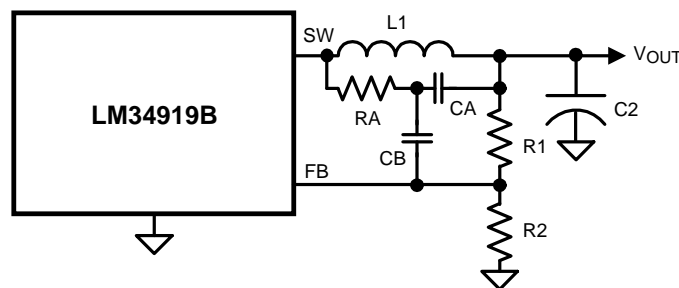

Figure 33. Minimum Output Ripple Using Ripple Injection
b) Minimum ripple configuration: The circuit of Figure 33 provides minimum ripple at V_{OUT} , determined primarily by $C2$'s characteristics and the inductor's ripple current since $R3$ is removed. RA and CA are chosen to generate a sawtooth waveform at their junction, and that voltage is AC-coupled to the FB pin via CB . To determine the values for RA , CA and CB , use the following procedure: